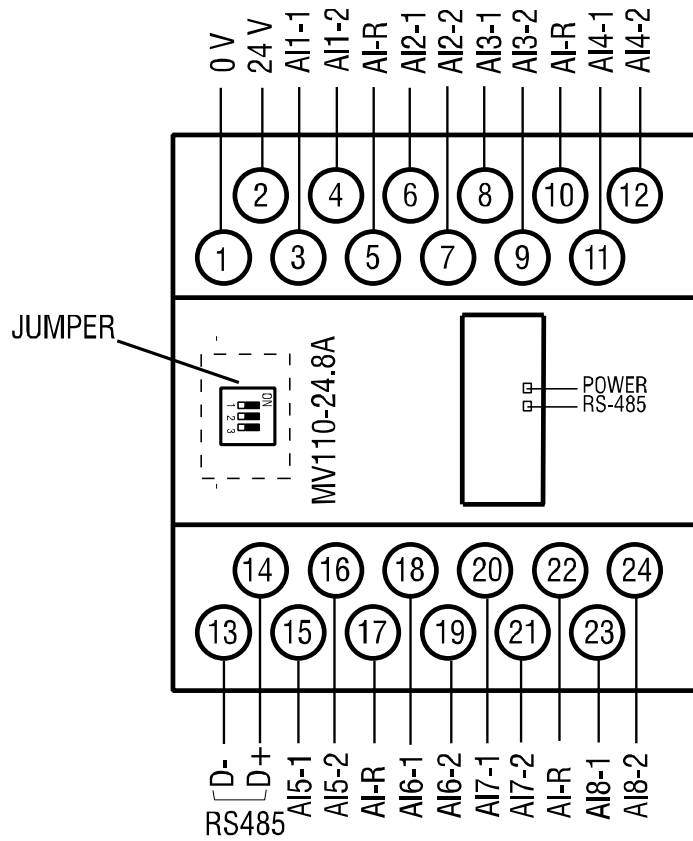

Fig. 4.1 Electrical connections
- Terminal connections are shown in Fig. 4.1, terminal assignments are given in Table 4.1.